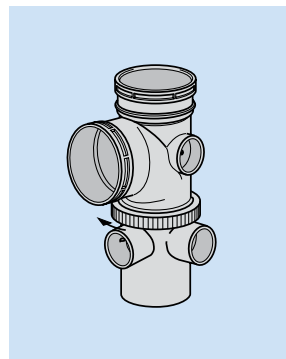

Fig. 30
- Tighten locking ring (Fig. 30).